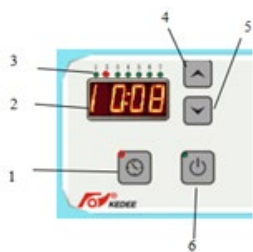

Fig. 6-1
- Press and long-hold 🕒 Key (1) twice until the weekday indicator lights flash, then click Key (4) or (5) to select the correct weekday (Monday to Sunday from left to right) (Fig. 6-1);